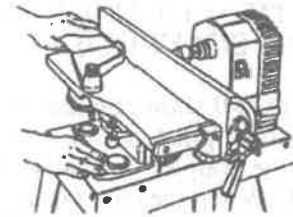

Fig.C-3
6. Unlock the carriage (21) by turning the handle (19) to the left. With your hands placed on the carriage and the Jointer, slide the carriage and Jointer toward the Power Station's drive shaft hub (31) until the coupler almost touches the hub. See Fig.C-3.